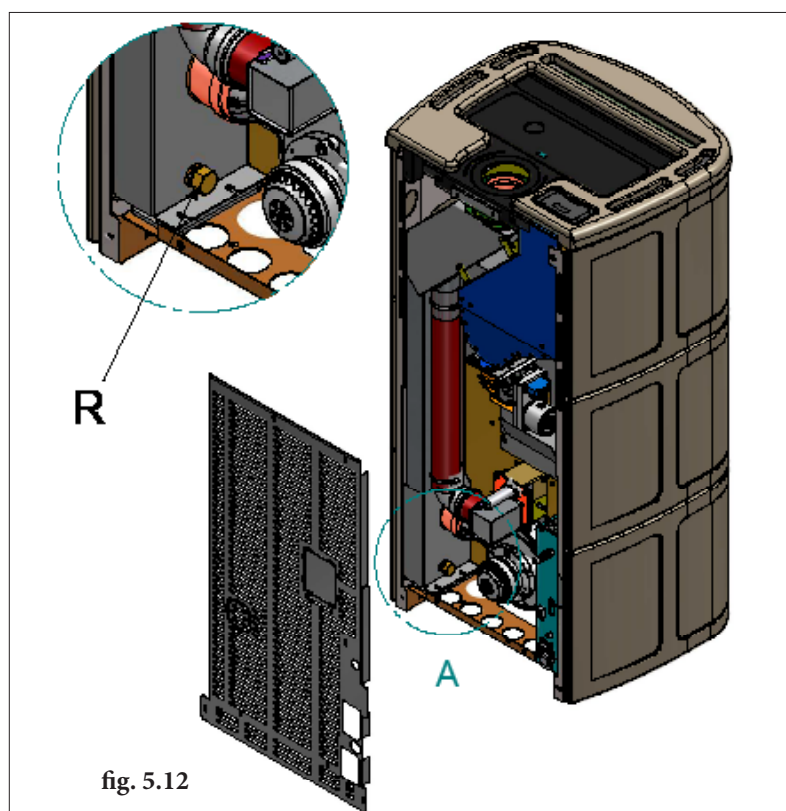

fig. 5.12
5.5.2 As an additional safety measure, there is a threaded fitting with locking cap "R" designed to connect the condensate drain pipe, if an unlikely event may require such measure (Fig. 5.12).